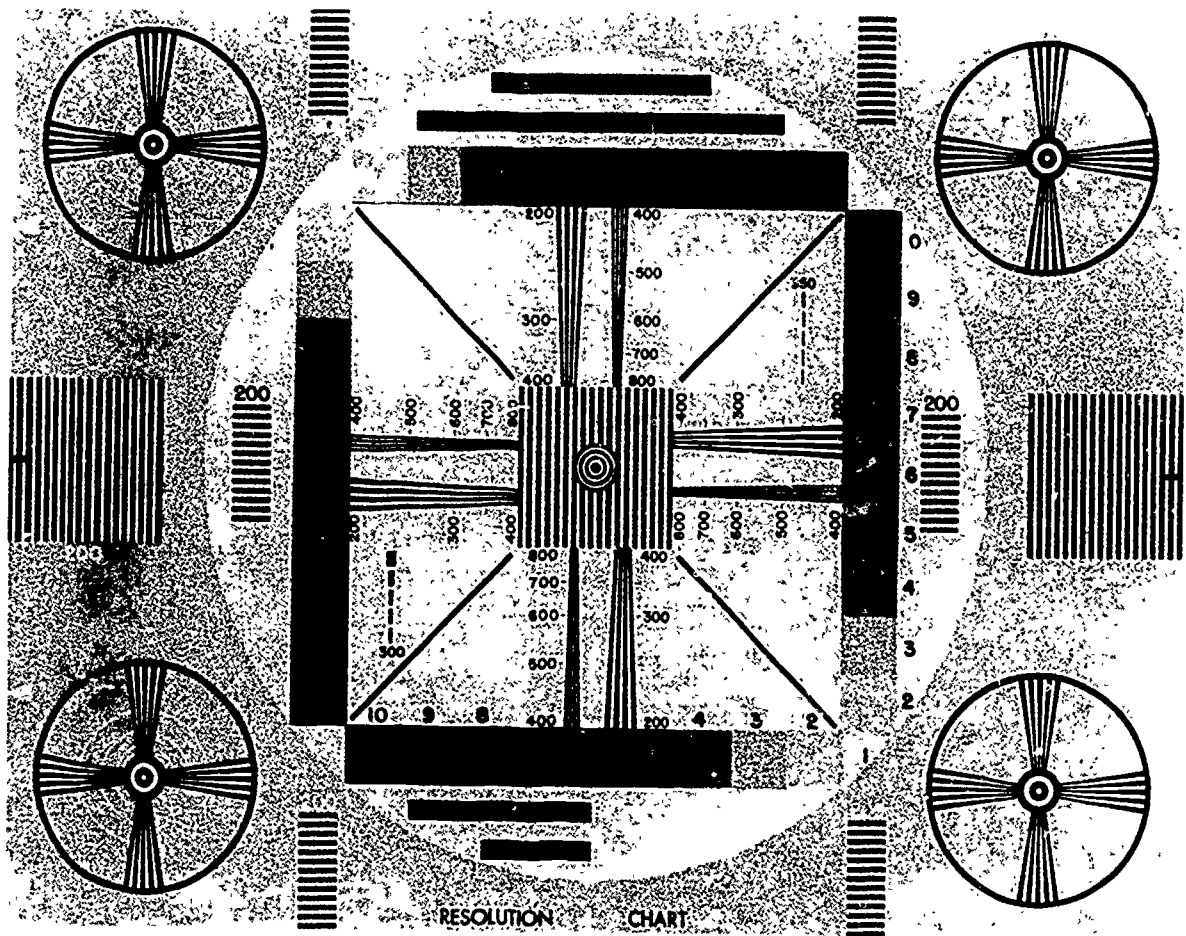

Figure 2-9. RETMA resolution target.
**Fine Detail and Resolution.** To an experienced photographer, photographing the RETMA resolution target (test pattern), which is shown in figure 2-9, would be a fairly straightforward job. An exacting reproduction would show every line and every shade of gray on the target. Television reproduction does not permit a level of resolution comparable to photography. Resolution is the ability of the system to reproduce fine detail. A resolution number may be assigned by noting the maximum ability of the system to distinguish between lines of the illustrated target.
For example, in figure 2-9, note that the central portion shows a number of lines that taper in to a closer spacing as they approach the center of the target. One band goes from 200 to 400, and the band next to it goes from 400 to 800. By watching the monitor, you may readily distinguish a point where the lines are just barely separated. Let us suppose that the lines barely appear separated at the point marked "350." This then, is the resolution of the system at this point on the screen. This resolution would be quite acceptable in broadcast television. At the same time, you can check out the resolution at any point on the monitor by viewing the appropriate parallel bars, tapered lines, or circles. You can also check out the system with this same target by viewing the gray scale rendition.